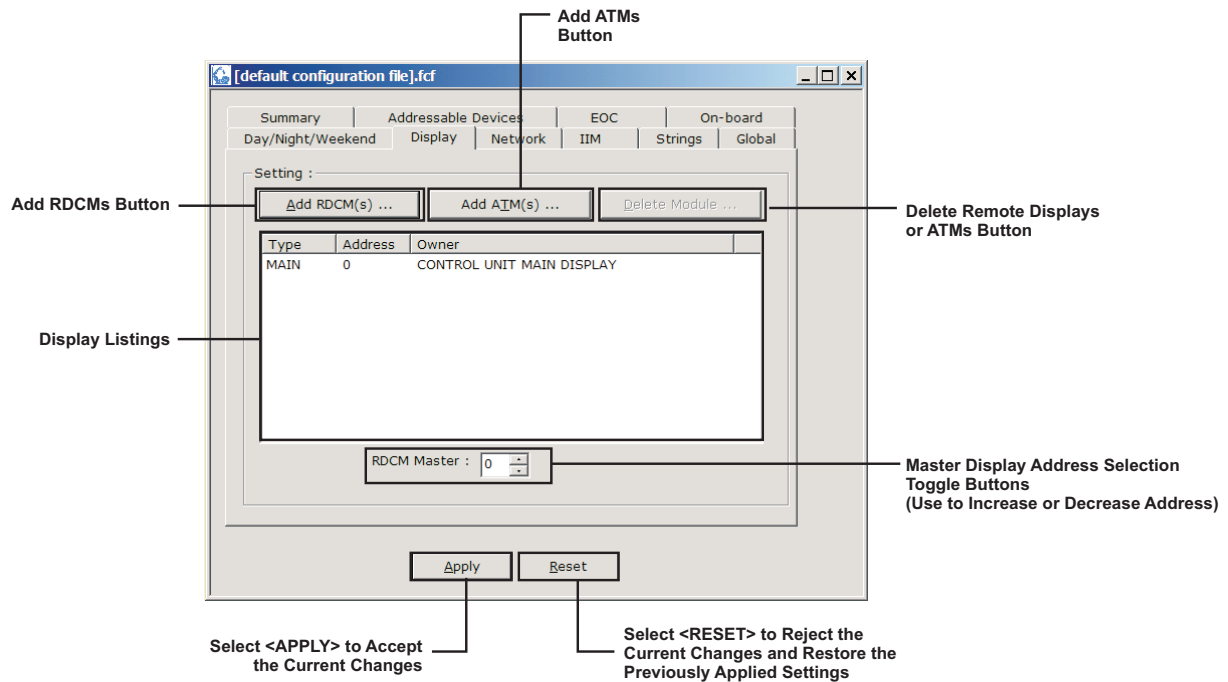

Figure 2-37. Peripheral-Devices Main Configuration Screen
Select the "Display" Tab; Figure 2-37 displays.
1. Highlight the device in the listings area of the Display Screen (Figure 2-37).